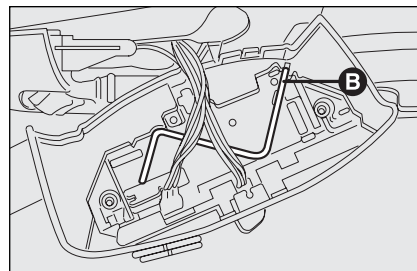
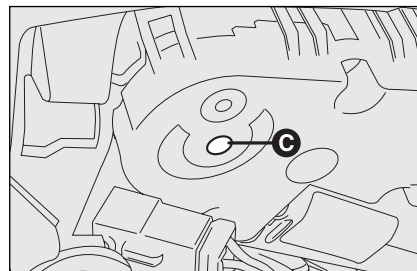

fig. 83
fig. 84
- pushing knob **A-fig. 83** upwards (reset previously stopped movement);
- insert the proper emergency key **B**-fig. 83 (located inside the ceiling light) into the seat **C**-fig. 84;